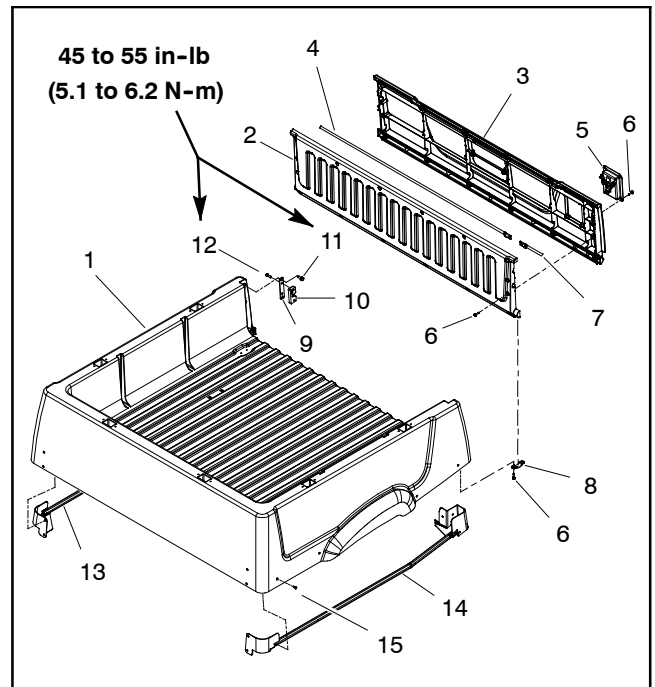

Figure 37
B. When installing tailgate latches, use torque specifications identified in Figure 37.